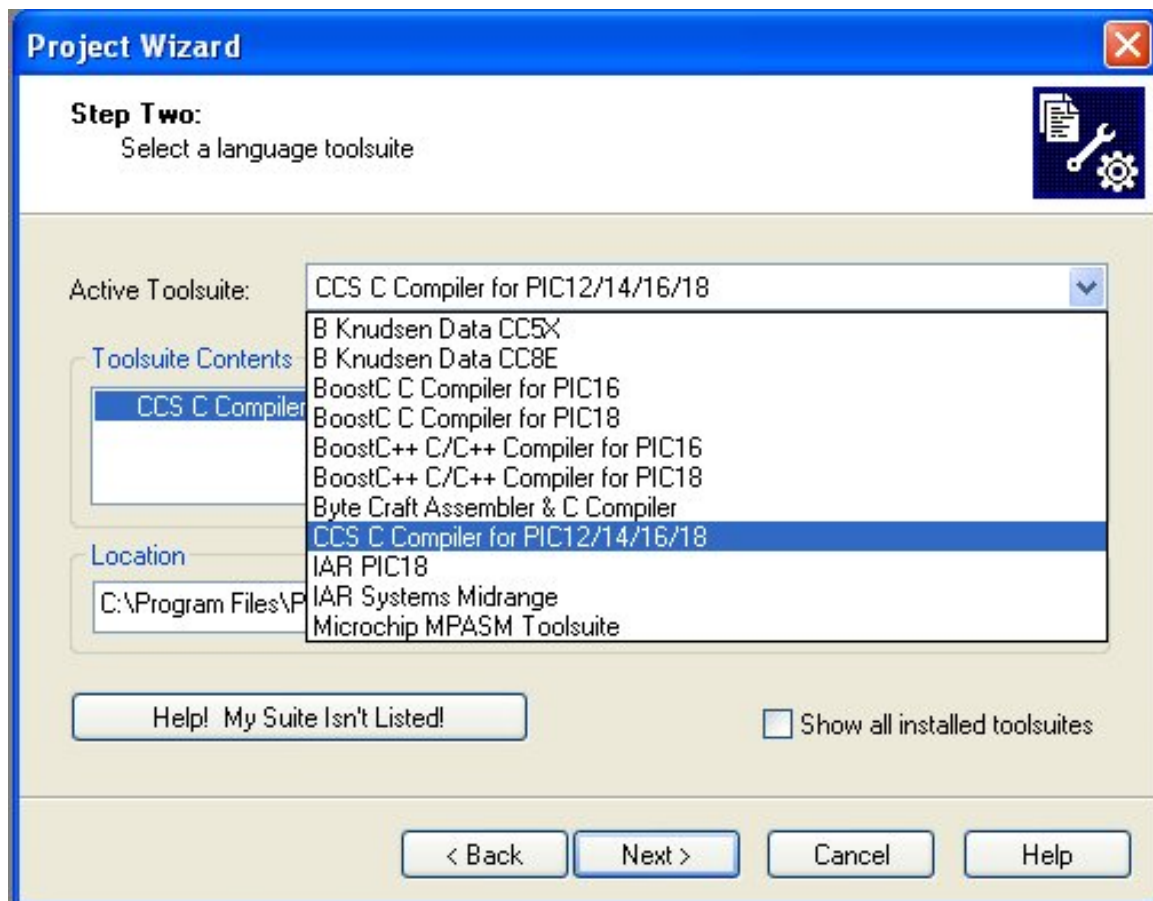

Figure 7: Project Compiler/language Tool Suite Selection
- Click Next to see a screen to select a language tool suite: we'll select CCS C Compiler for PIC12/14/16/18. Please note that there are other compilers that are supported by MPLAB IDE as seen in the pull down list on Fig. 7